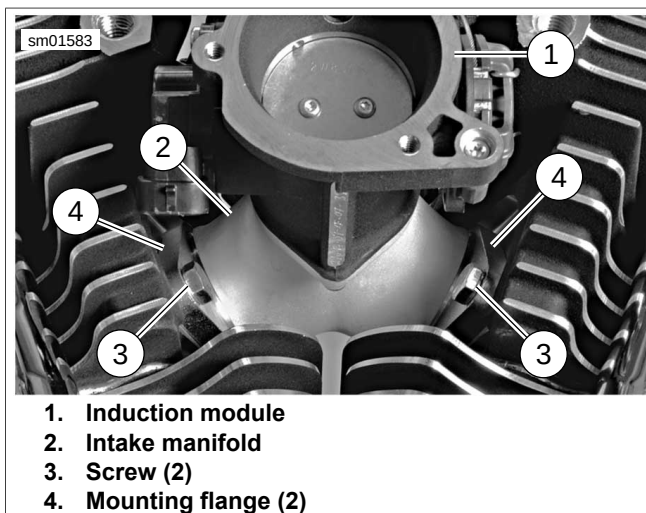

**Figure 4-33. Idle Control Cable Adjustment**
9. See Figure 4-33. Slide rubber boot off idle control cable assembly (1).
10. Loosen jamnut (3).